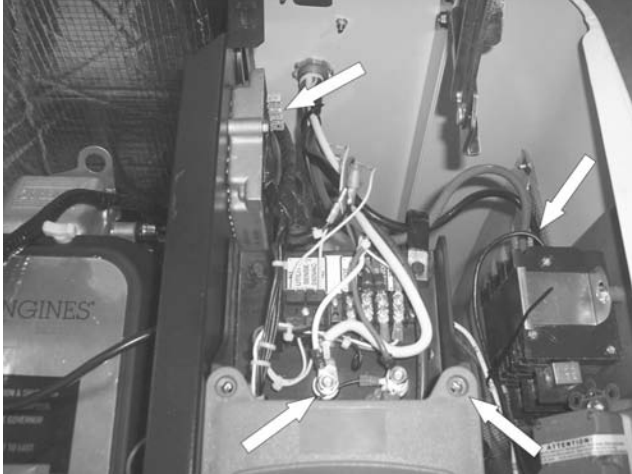

Figure 5.
4. Remove Stator Wires: Remove all wires from the voltage regulator, remove the neutral and ground wires from landing lugs, and remove N1 & N2 wires from main breakers. See Figure 5.